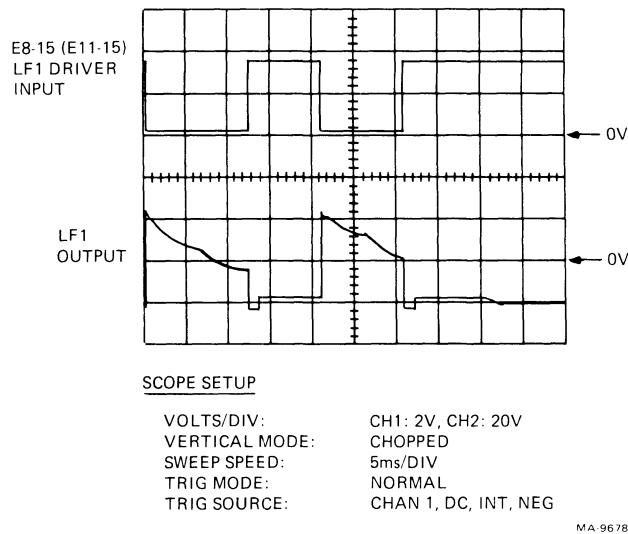

Figure 6-12 Line Feed Input vs Output (Phase 1 Shown)
7. Each phase of the quadrature phase line feed driver is checked by connecting channel 1 of scope to driver input, and channel 2 to driver output. Set up scope as shown in Figure 6-12.
8. Press **LINE FEED** and check for a waveform similar to Figure 6-12. The example given in the figure is for channel LF1 or LF2. Channels LF3 and LF4 are similar except that the input phase is reversed (switch scope trigger from - to +). If only one or two outputs look bad, then the line feed driver is suspected. If all outputs look bad, then the RUN line darlington switch (Q3) is probably defective.